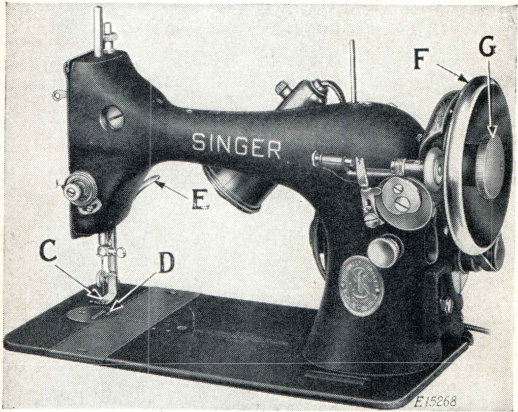

FIG. 3. FRONT VIEW OF THE MACHINE
To prevent injury to the presser foot (C, Fig. 3) and feed (D, Fig. 3), raise the presser foot (C) by means of the presser bar lifter (E, Fig. 3).
Release the balance wheel (F, Fig. 3, page 6) by turning the stop motion screw (G, Fig. 3) over toward you.